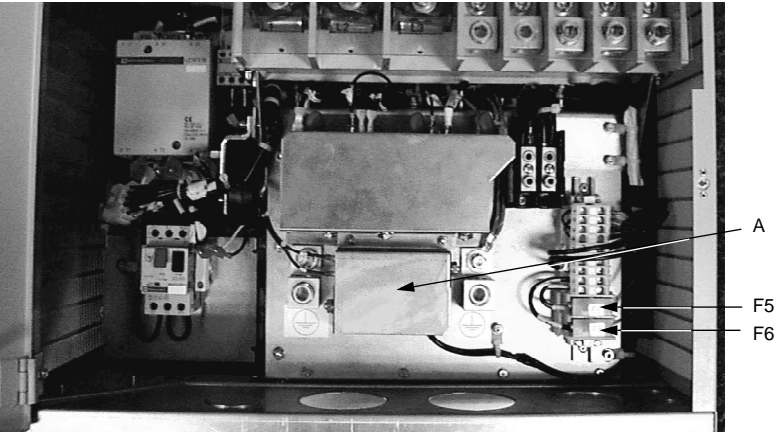

Figure 4.2.46: Control Power Fuses
2. Pull the F5 and F6 fuse holders from their sockets (see Figure 4.2.46).
7. Remove the nut securing the starting capacitor to the fan capacitor assembly (A in Figure 4.2.46 on page 4.2.78).